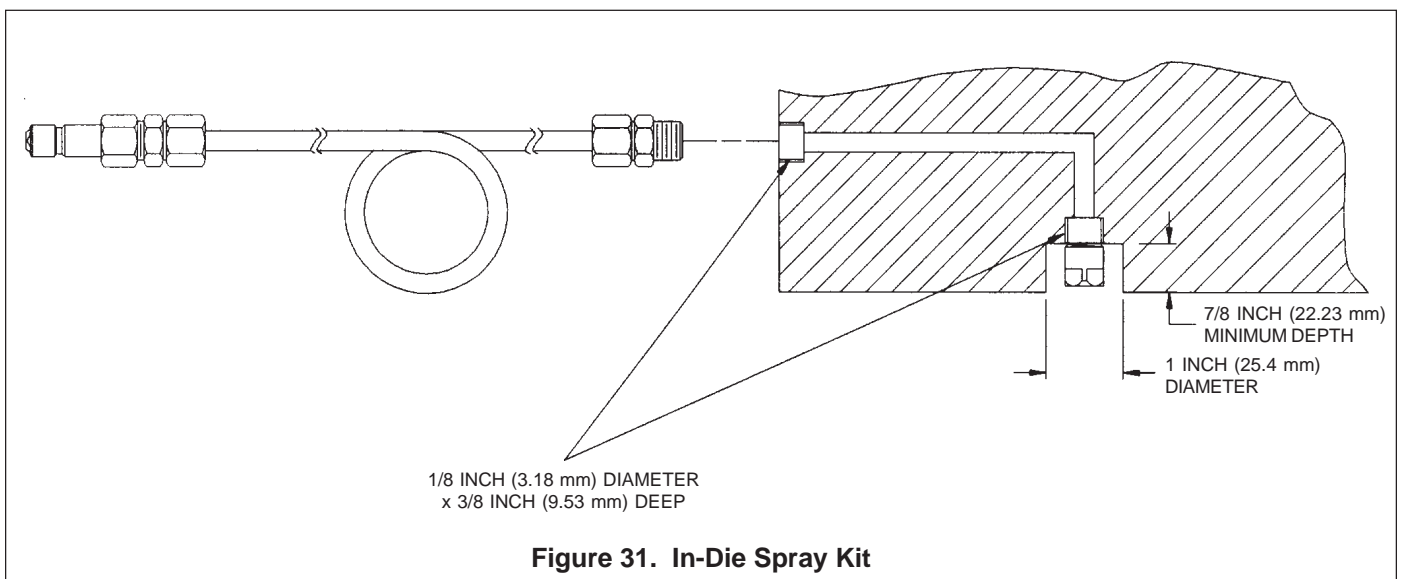

Figure 31. In-Die Spray Kit
**In-Die Spray Kits.** (See Figure 31.) An in-die spray kit can be mounted directly in the die to help reduce die change setup time. Each spray kit comes with a ten-foot (three-meter) long, 1/4-inch (6.3 mm) O.D. nylon tubing, male quick-connect plug and spray nozzle. The spray kit requires